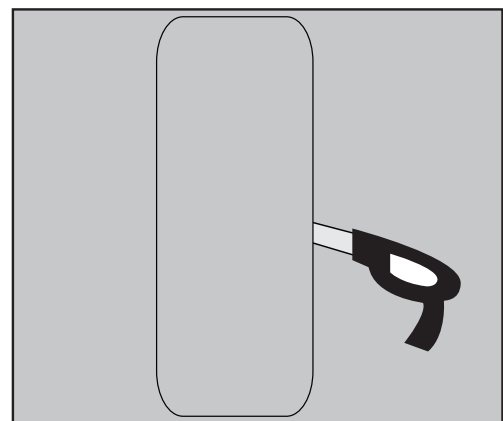

Figure 2
4. Carefully cut a hole with the appropriate cutting tool along the pencil trace as follows: Start the hole by drilling a hole inside of the pencil line (place drill bit just inside the line). Use this hole to insert the cutting tool and begin cutting — be careful not to cut outside the template line. (Figure 2).